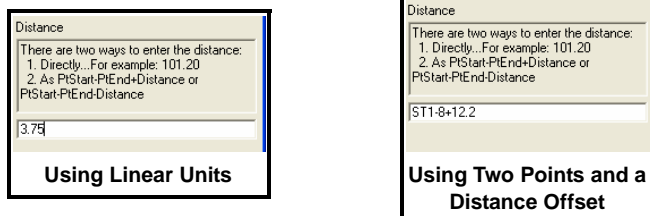

Figure 9-84. Enter Distance From Start Point
- Using a linear distance. Enter linear units using the same format as the job (Figure 9-84).
- Using two current point names (start and end) and an distance offset in the following format (Figure 9-84). Using this method, the distance will be computed first between the two points, then add the distance offset.